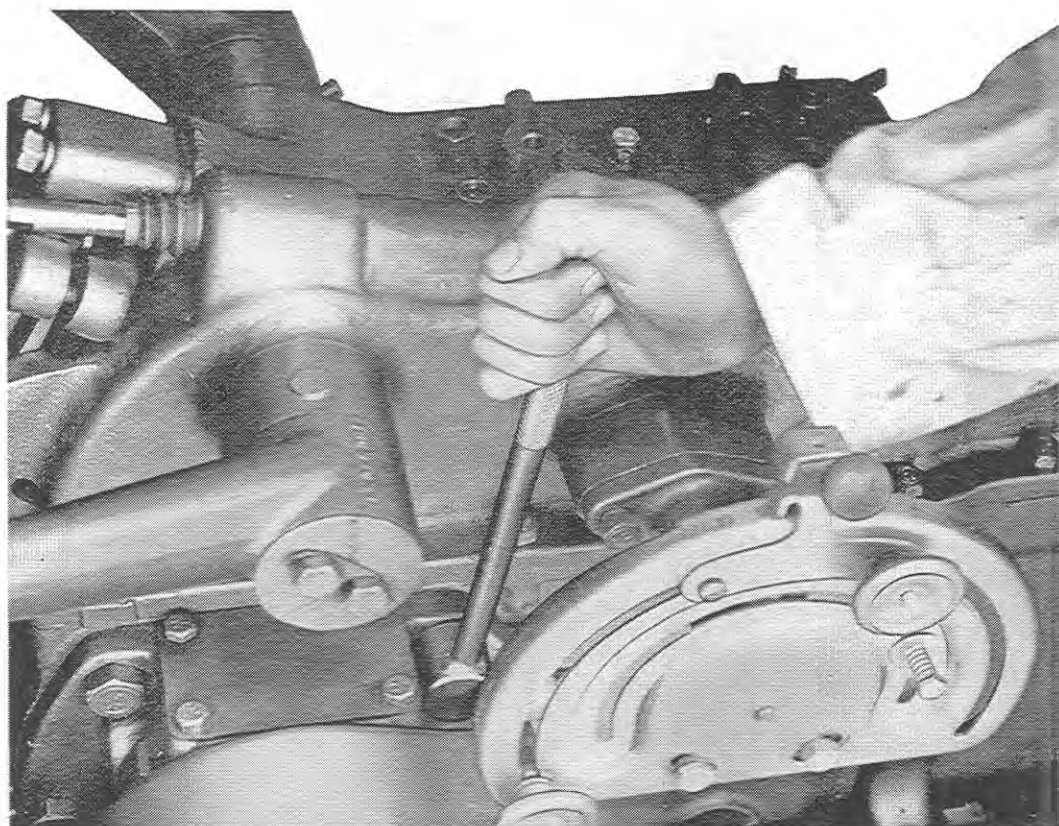

Fig. 1
- 3) Remove the 18 screws attaching the axle shaft housing to the gearbox using if necessary the spanner MIBA (Fig. 1).